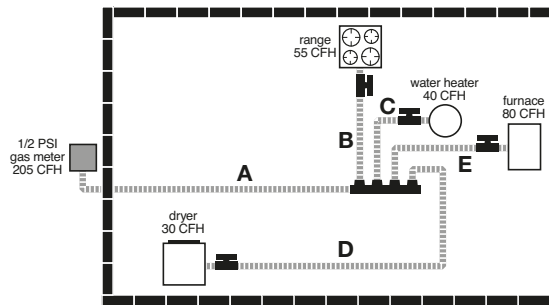

Figure: 3-2
1. The system shown in Figure: 3-2 is typical of a single family installation with several appliances. The arrangement chosen is parallel. The MEDIUM PRESSURE SYSTEM (1/2 PSI) allows a higher pressure drop (1 inch water column) than is available with low pressure systems.